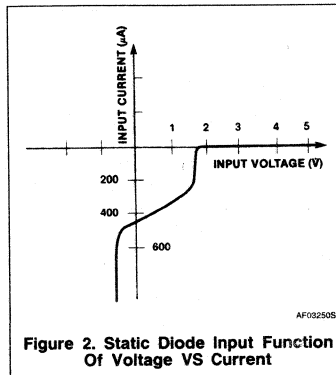
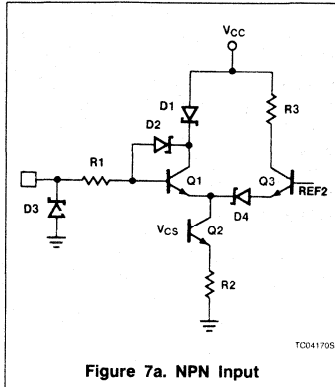
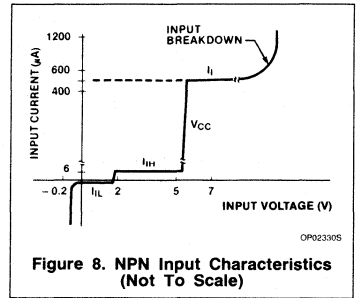

Figure 2. Static Diode Input Function Of Voltage VS Current
Figure 7a. NPN Input
Figure 8. NPN Input Characteristics (Not To Scale)
At Signetics, quality means more than working circuits. It means on-time delivery of the right product at the agreed upon price (see Figure 2).
The static diode input function of voltage versus current is shown in Figure 2. If the pin voltage is negative, most of the relatively high negative current flows through the clamp Schottky D2. At 0V the current flows from VCC through R1 and D1 to the pin. Switching from a logic LOW level to a logic HIGH level occurs when the input pin voltage rises high enough to force the current from the D1 path to the Q4 - Q2 - Q1 path. This happens when the base voltage of transistor Q3 is at three base-emitter drops (3VBE), and the pin is at 2VBE, which is the standard FAST threshold switching voltage. At this voltage the input current is very small, just the leakage currents of diodes D1, D3 and clamp diode D2. The current remains at this small, positive value until breakdown voltage is reached.
The current of Figure 2 is scaled for the case where the pin is required to pull down a single 10K $\Omega$  resistor R1 (20 $\mu$ A maximum in the HIGH state and 0.6mA maximum in the LOW state), which is defined as a standard FAST Unit Load (UL). For some parts, pin current can exceed a UL, especially in the logic LOW state. This will happen if the pin must sink the current from more than one R1 resistor, or if the value of R1 is less than 10K $\Omega$ , which will be the case if the capacitance at the base of the transistor Q3 is too large for the required switching speed. In this event, the actual number of ULs is listed for each input in the specification sheet for the part. Note that a UL as defined here is less than the normally defined Schottky TTL Unit Load; the correlation is one Schottky Unit Load = 1.67 ULs. This is an important point to remember for fan-in and fan-out calculations in systems that mix FAST with other TTL families.
The NPN input is shown with two variations in Figures 7a and 7b. It has limited use in standard TTL circuits, and is used in selected FAST devices, especially where its superior high-impedance input characteristics are use-
ful. A typical plot of static input current versus input voltage is shown in Figure 8. There are some significant differences between this function and that of the diffusion diode input shown in Figure 2, the most important being the much lower input current in the region from 0V to threshold, and the controlled increase of input current above  $V_{CC}$ . In Figure 7a Ref 2 is set to  $2V_{BE}$  plus one Schottky drop.
For the inductive overshoot case, when the pin voltage exceeds  $V_{CC}$ , part of the Q1 collector current begins to flow from the pin through limiting resistor R1 and Schottky diode D2. The current from  $V_{CC}$  through D1 decreases by exactly this amount, since Q2 is a constant current source. As the voltage continues to rise, D1 becomes reverse biased and prevents high currents flowing from the pin into  $V_{CC}$ . All the Q2 current flows into the pin through the R1-D2-Q1-Q2-R2 path to ground. As stated before, this current is typically small, in the range of 0.1mA to 1.0mA, and nearly independent of pin voltage, as shown by the  $I_I$  plateau in Figure 8.  $I_I$  provides a clamping action to ground for pin voltages in excess of  $V_{CC}$ , and this is usually desirable to reduce overshoot.
inspection. For the incoming inspection testing case where  $V_{CC}$  is connected to a 5V source the response is shown in Figure 8. The current remains on the Q2-limited plateau until the pin voltage is high enough to cause non-destructive collector-emitter reach-through of Q2. At this point, input current increases as the pin voltage rises, and R1 functions to limit this current and prevent damage to Q2.
The current-mode logic interface is shown in Figure 7a. The output voltage is the drop across R3, and is referenced to  $V_{CC}$  (or some on-chip regulated voltage lower than  $V_{CC}$ ) as is required for current-mode logic. For this case, voltage reference REF2 is normally fixed at  $2V_{BE} + 1$  Schottky drop to provide a pin threshold voltage of  $2V_{BE}$ . In fact, REF2 can be tailored to set the switching threshold voltage to any desirable level; it can be set to something other than an integral number of base emitter drops, or it can be designed to reduce the sometimes undesirable temperature variations of input threshold.
Many standard TTL devices, and the majority of FAST devices available to date, have diode or equivalent input structures with static current functions similar to those shown in Figure 2. At voltages above switching threshold